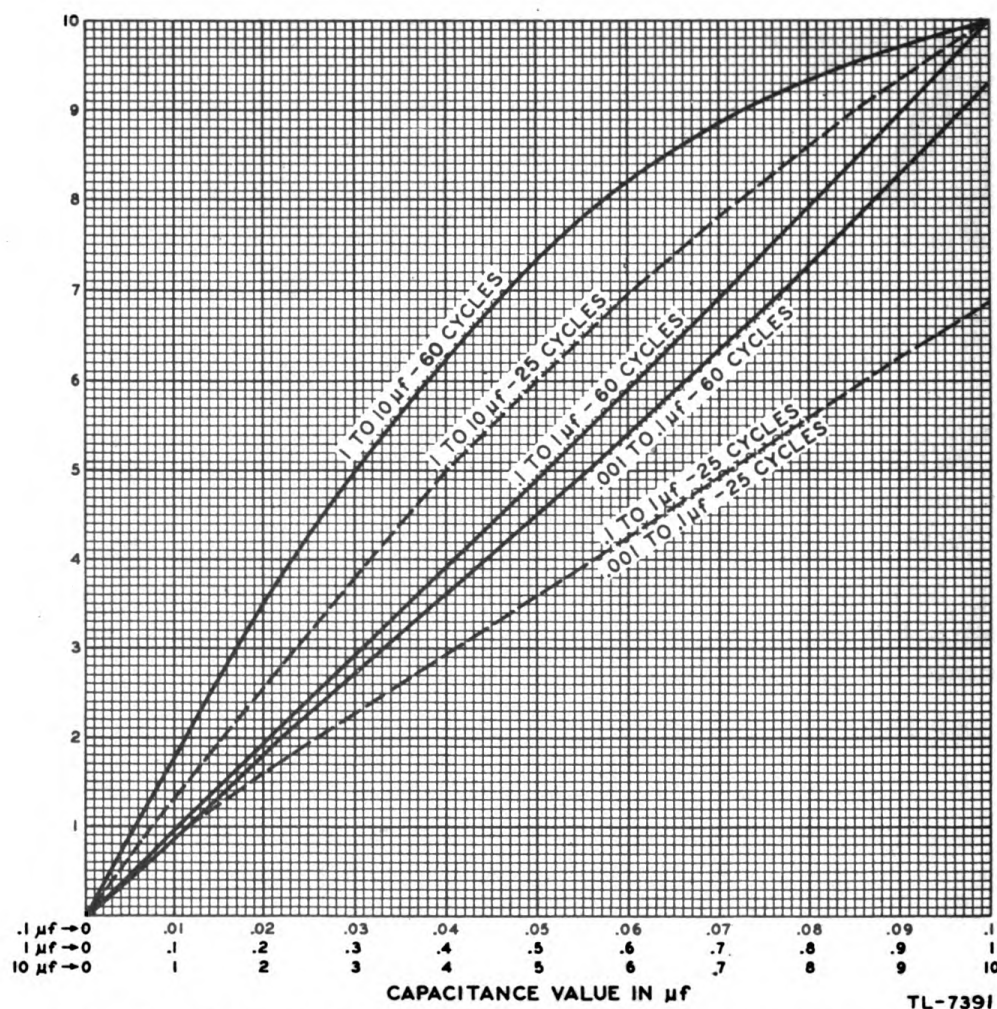
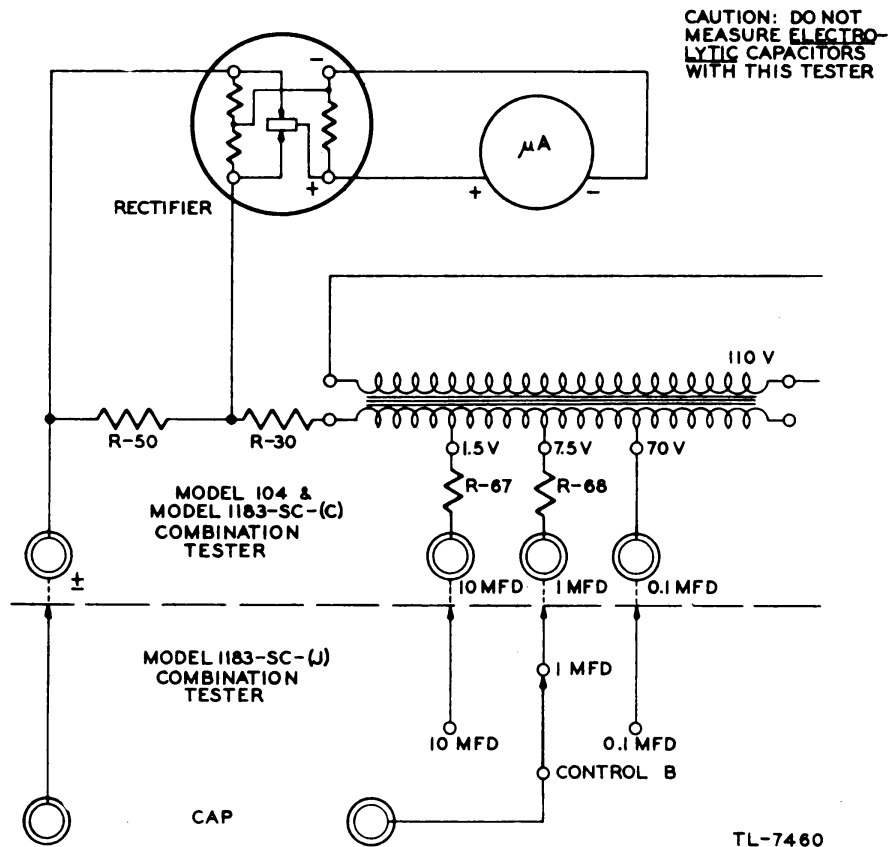

FIG. 10. COMBINATION TESTER, CAPACITANCE TEST GRAPH
FIG. 18. MODEL 10' COMBINATION TESTER, SIMPLIFIED CAPACITANCE MEASURING CIRCUIT
h. Read the meter indication on the 0-10 A.C. scale. Then refer to the capacitor test graph (fig. 10) to determine the capacitance value corresponding to the meter reading. The capacitance value chart lists approximate readings for 60-cycle current.
g. Read the meter on the 0-10 A.C. scale. Refer to the capacitor test graph (fig. 10) to determine the capacitance value corresponding to the meter reading.
e. *Combination Tester as a Capacitance Measuring Device (fig. 18).* When **Control D** is set at CAP, the circuits are so arranged that either the 1.5-, 7.5- or 70-volt winding of transformer (T-1) is placed in series with the capacitor being tested. Resistors (R-50) and (R-30) are shunted across the rectifier input. One terminal of the capacitor under test is connected to an input terminal of the rectifier. The other input terminal of the rectifier is attached to resistor (R-30). The indicating meter is placed across the output terminals of the rectifier. The meter is read on the 10-volt a-c scale. This reading is used with the capacitance graph (fig. 10) to determine the capacity of the capacitor under test.